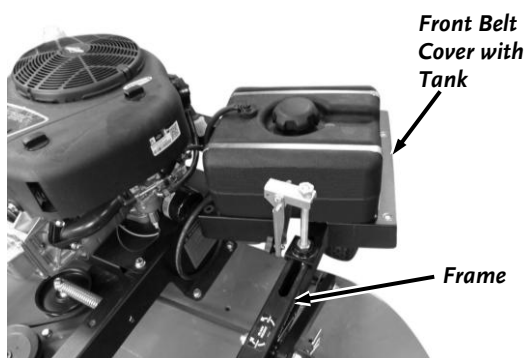

Figure 46
5. **Pro XL60TF model:** Position the Front Belt Cover with Tank at the left rear corner of the Frame (Figure 46).